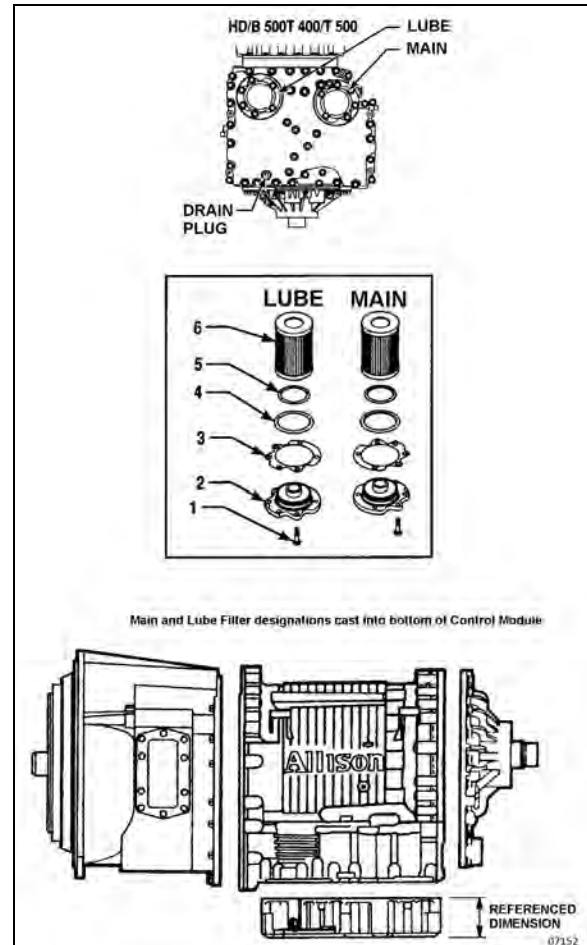

FIGURE 6: DRAIN PLUG AND FILTERS
2. Remove the drain plug from under the transmission (Figure 6) and allow the fluid to drain into a suitable container. Check the condition of the fluid as described previously.
3. Remove twelve bolts (item 1), two filter covers (item 2), two gaskets (item 3), two O-rings (item 4), two O-rings (item 5) and the two filters (item 6) from the bottom of the control module (Figure 6).
4. When reinstalling parts, lubricate and install new O-rings (4) and (5) on each cover (2). Lubricate O-ring inside filter (6) and push filter onto cover (2). Install new gaskets (3) on cover (2) and align holes in gaskets with holes in cover.